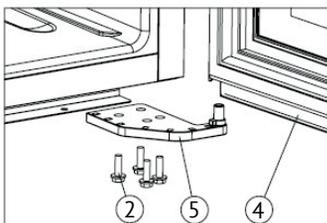

Figure 2
➔ Unscrew the M5*16 screws ②, dismantle the right lower hinge ⑤ (Figure 2).